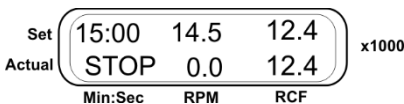

Fig. 6. Control panel in stop mode
- 4.6. Place the rotor lid on the rotor pressing the lid holder down tightly. Close the outer lid (the clicking sound of the lock and readings STOP in the lower line of the display indicate that the lid is closed, see fig. 6).
- 4.10. Centrifugation is stopped automatically after the set time elapses (while braking display shows blinking indication STOP (fig. 6). A sound signal is emitted after full stop of the rotor (press the **Run Stop** key (fig.3/4) to stop the signal).